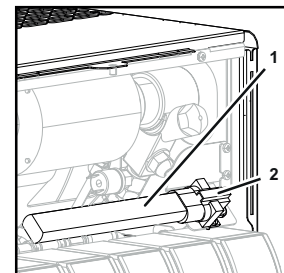

Fig. 35
2. Remove the lamp (Fig. 35/1) from the lamp socket (Fig. 35/2).
3. Position the new lamp (Fig. 35/1).
4. Push the lamp (Fig. 35/1) into the lamp socket (Fig. 35/2).